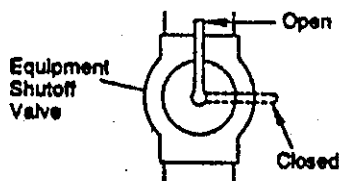

Figure 14-Equipment Shutoff Valve
1. Close equipment shutoff valve (see Figure 14).
1. Open equipment shutoff valve (see Figure 14).